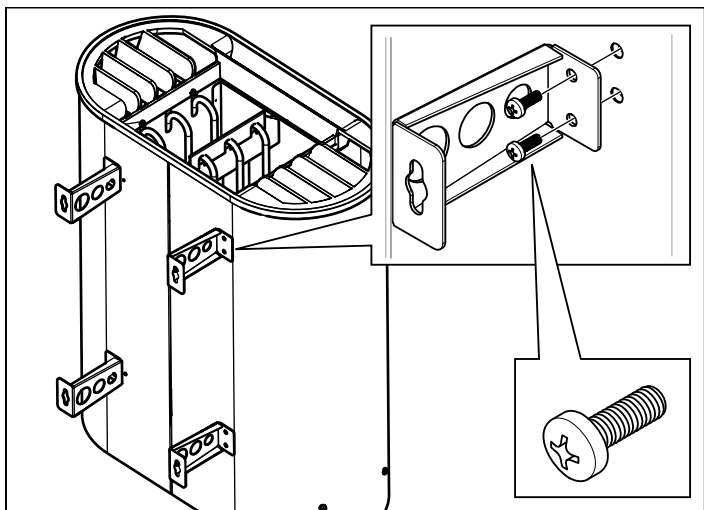

Figure 7: Attaching the brackets to the heater
- 5. Attaching the brackets to the heater see Figure 7, Page 7.